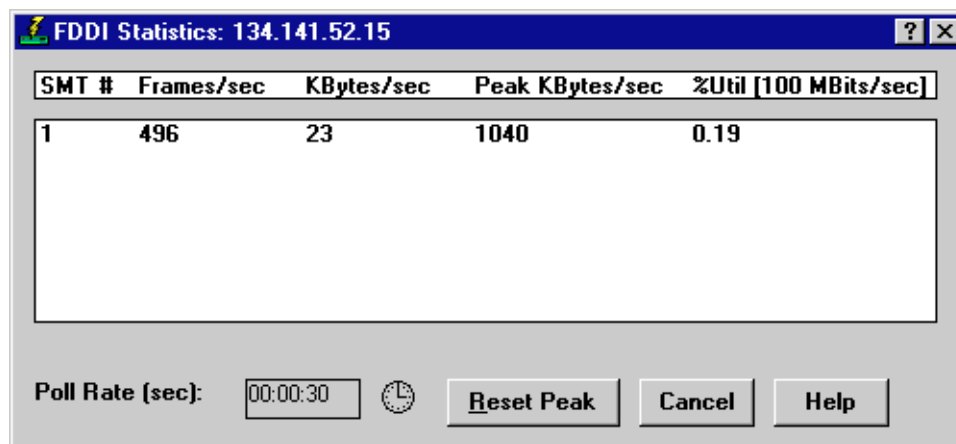

Figure 5-6. The FDDI Statistics Window
2. Select **FDDI Statistics**. The FDDI Statistics window (Figure 5-6) will appear.